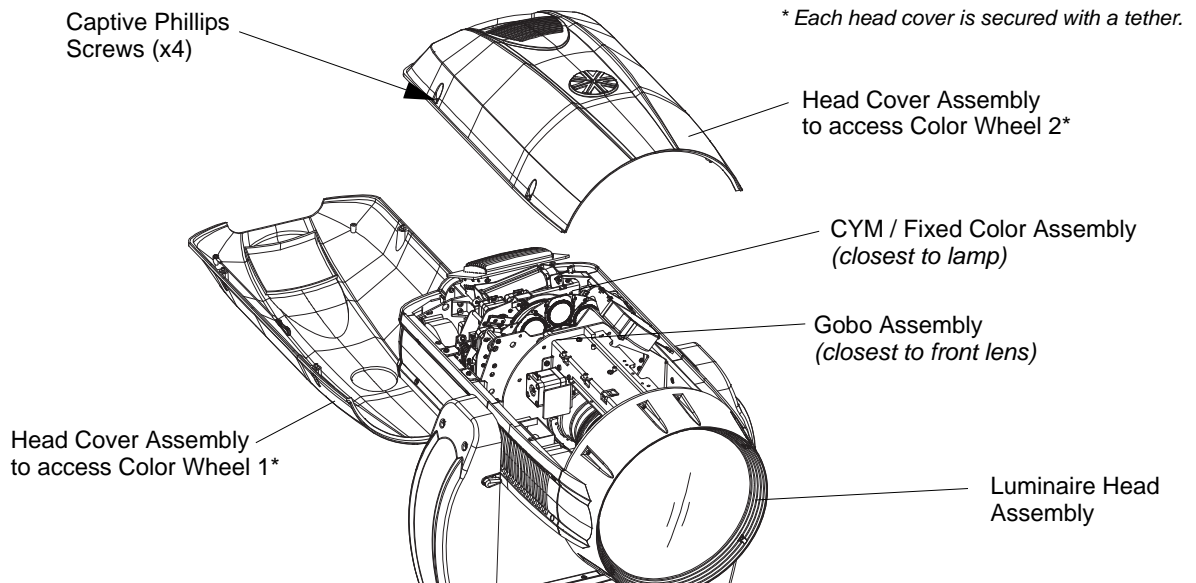

Figure A-4: Replacing Fixed Color Filters
- For Fixed Color Wheel 1 (closest to the rear of luminaire), remove head cover assembly as indicated in Figure A-4 by loosening four captive screws and lifting cover away from luminaire head. Note, head cover is attached by a safety tether.
- For Fixed Color Wheel 2 (closest to the front of luminaire), remove head cover assembly as indicated in Figure A-4 by loosening our captive screws and lifting cover away from luminaire head. Note, head cover is attached by a safety tether.
- a. For Rotating Gobo Wheel 1 (closest to the rear of luminaire), remove head cover assembly as indicated in Figure A-4 by loosening our captive screws and lifting cover away from luminaire head. Note, head cover is attached by a safety tether.
- b. For Rotating Gobo Wheel 2 (closest to the front of luminaire), remove head cover assembly as indicated in Figure A-4 by loosening our captive screws and lifting cover away from luminaire head. Note, head cover is attached by a safety tether.